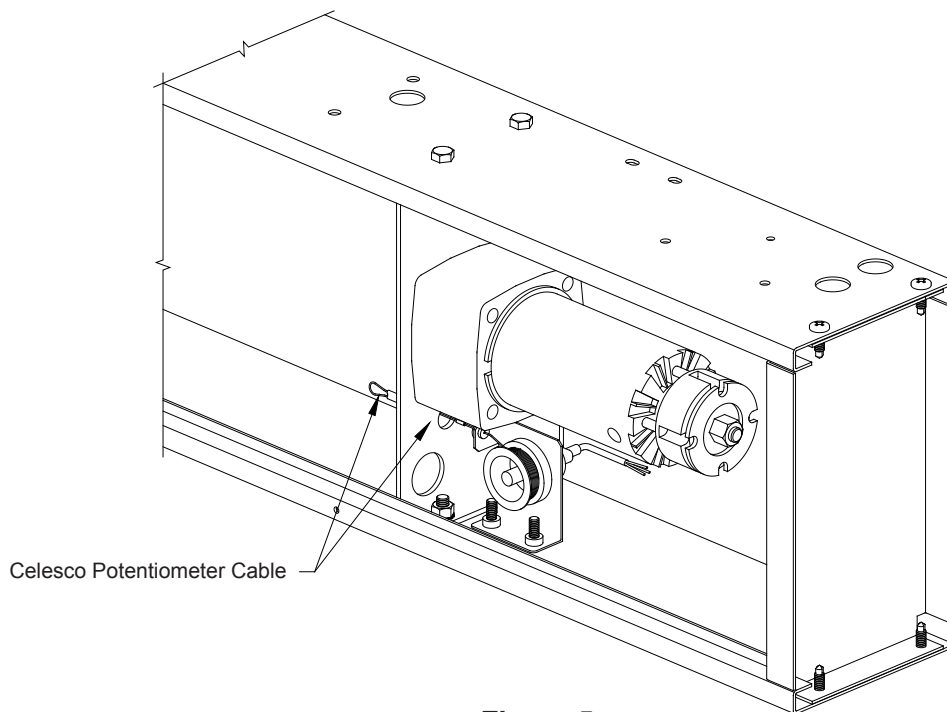

Figure 5
- 7) Feed the loop end of the Celesco potentiometer cable through the hole in the lower bulkhead (See Figure 5) and slip over the bolt that was left in the pull bar from Step 2. Snug this bolt, do not over tighten. A Zip Tie is provided for an alternate method of attaching the looped end to the pull bar.